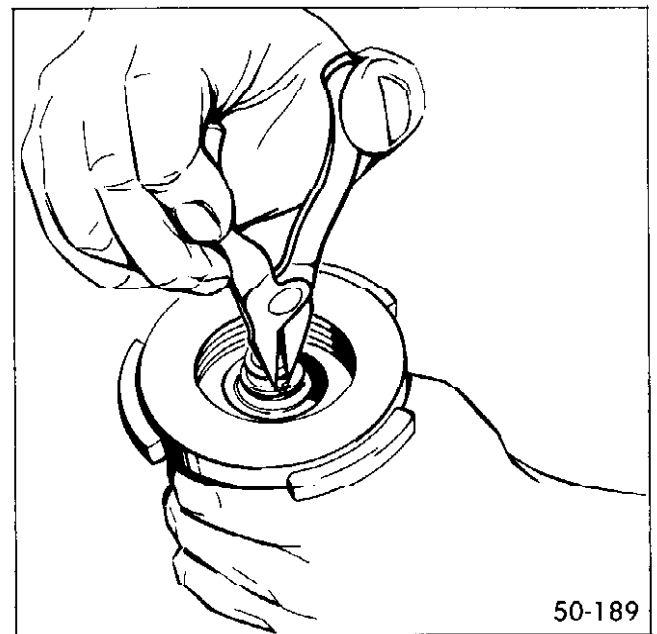

Figure 50-82 Removing Retaining Ring From Air Valve
16. Using Truarc No. 2 pliers (J-4880), remove the retaining ring from the air valve. See Figure 50-82.
8. Using Truarc No. 2 plier (J-4880), place the retaining ring into the groove in the air valve. See Figure 50-82.